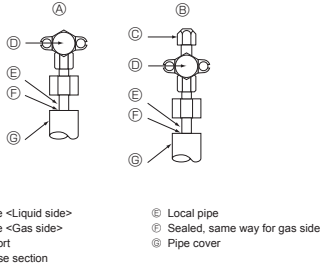

Fig. 5-4
5.4. Refrigerant pipe airtight testing method (Fig. 5-4)